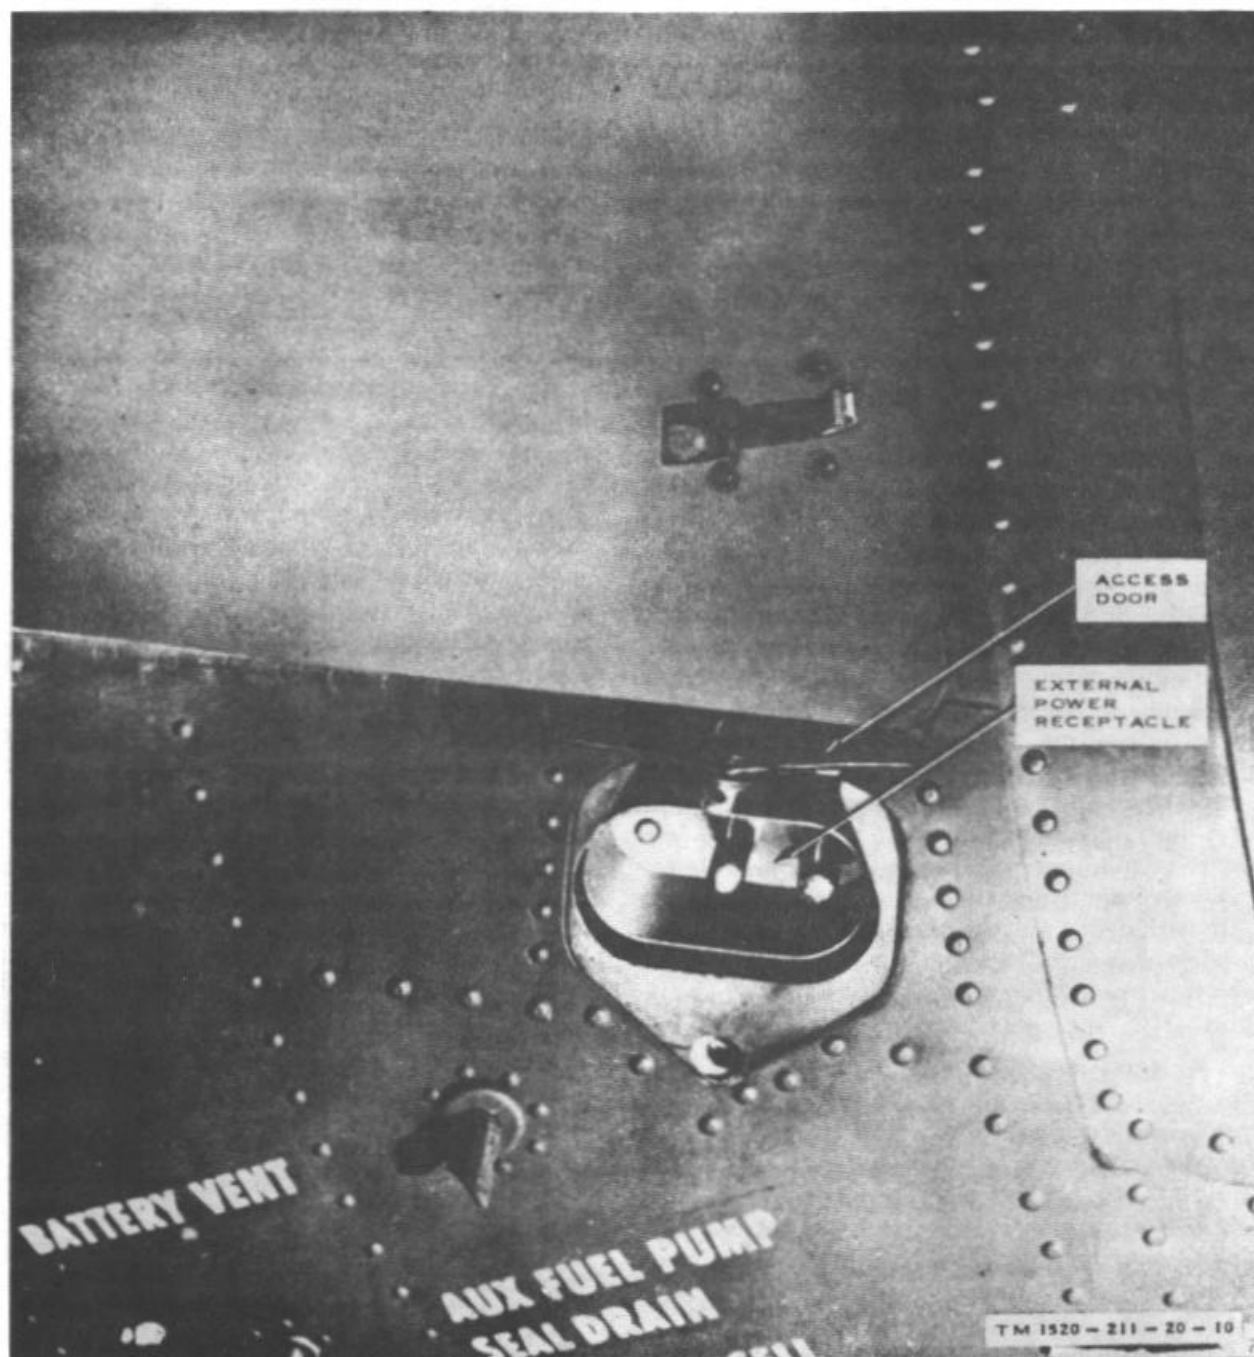

Figure 2-3. External power receptacle.
b. Connect the auxiliary power unit plug to the helicopter external power receptacle (fig. 2-3) on the left side of the helicopter below the electrical compartment access door.